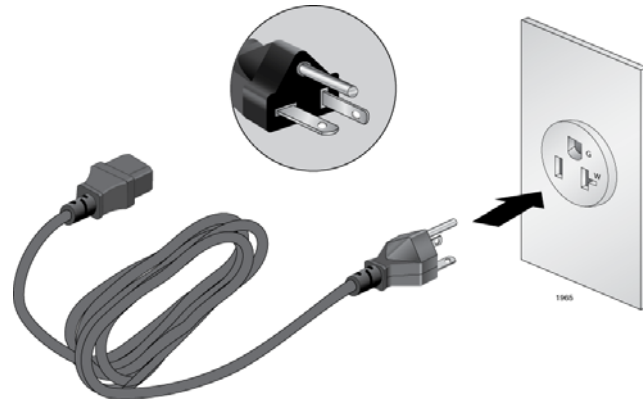

Figure 42. 100 - 125 VAC 125 V NEMA 5-20 Plug and Receptacle
- The power cords provided with the AT-SBxPWRSYS1 and AT-SBxPWRPOE1 AC Power Supplies for 100-125 VAC installations have 20 Amp, 125 V NEMA 5-20P plugs. The plugs are only compatible with NEMA 5-20R receptacles. See Figure 42 on page 111.